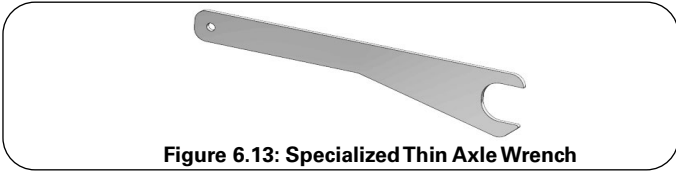

Figure 6.13: Specialized Thin Axle Wrench
- d. A specialized thin wrench is used to secure the axle shaft of the idler roller while loosening the bolt locking the axle in place within the Divert mechanism frame (Figure 6.13). This wrench is available through Regal Rexnord.